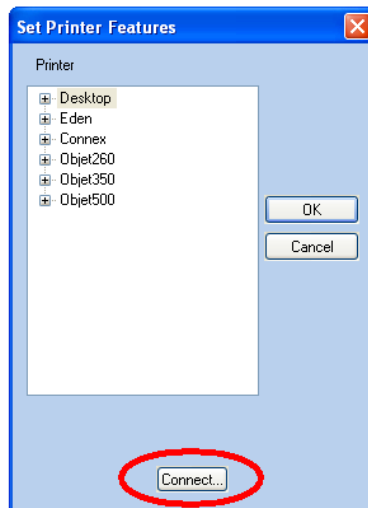

Figure 5-85 Connecting to a printer (A)
2. In the *Set Printer Features* dialog box, click Connect (see Figure 5-85 on the previous page).